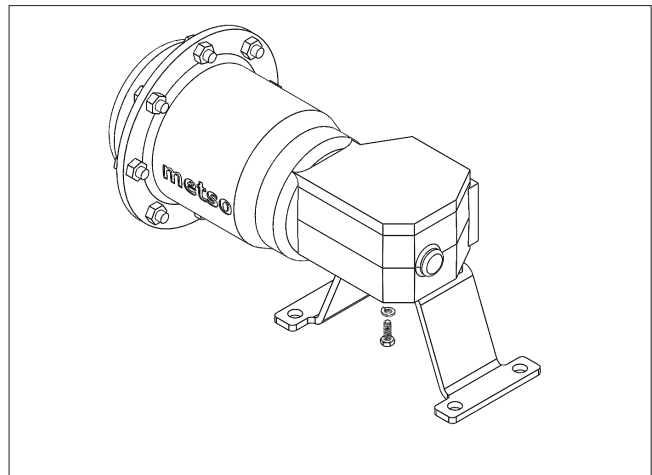

Figure 13.
2. Assemble bracket to actuator as shown in (Figure 13). Tighten to torque listed in (Table 5).